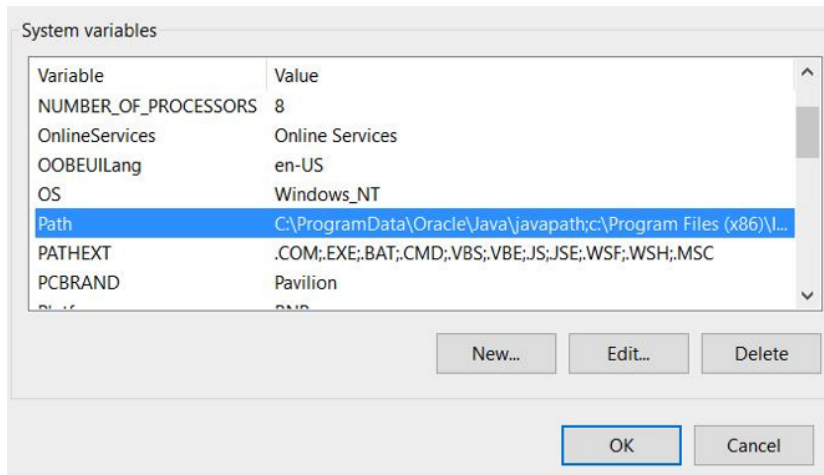

Figure 5: Windows System variables. This is part of *environment variables* in Windows.
7. Windows users might also need to add this ImageJ library folder to their system environment variables path. To do this locate *system variables* in *environment variables* and click on the 'Path' parameter (figure 5). Press edit and add a new path pointing to your ImageJ library folder, example: C:/Documents/ImageJ/jre/lib.